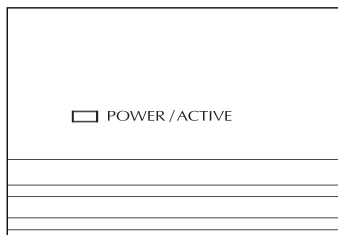

Figure 7:
3. Gradually turn the sensitivity adjustment screw located on the bottom of the TVA50 (Figure 6) until you hear the internal relay of TVA50 switch. This is indicated by a clicking sound inside the unit. The Power/Active LED on the front panel of the TVA50 (Figure 7) provides a visual indication of the local switching. When the TVA50 switches to the local input the Power/Active LED will change from red to green.